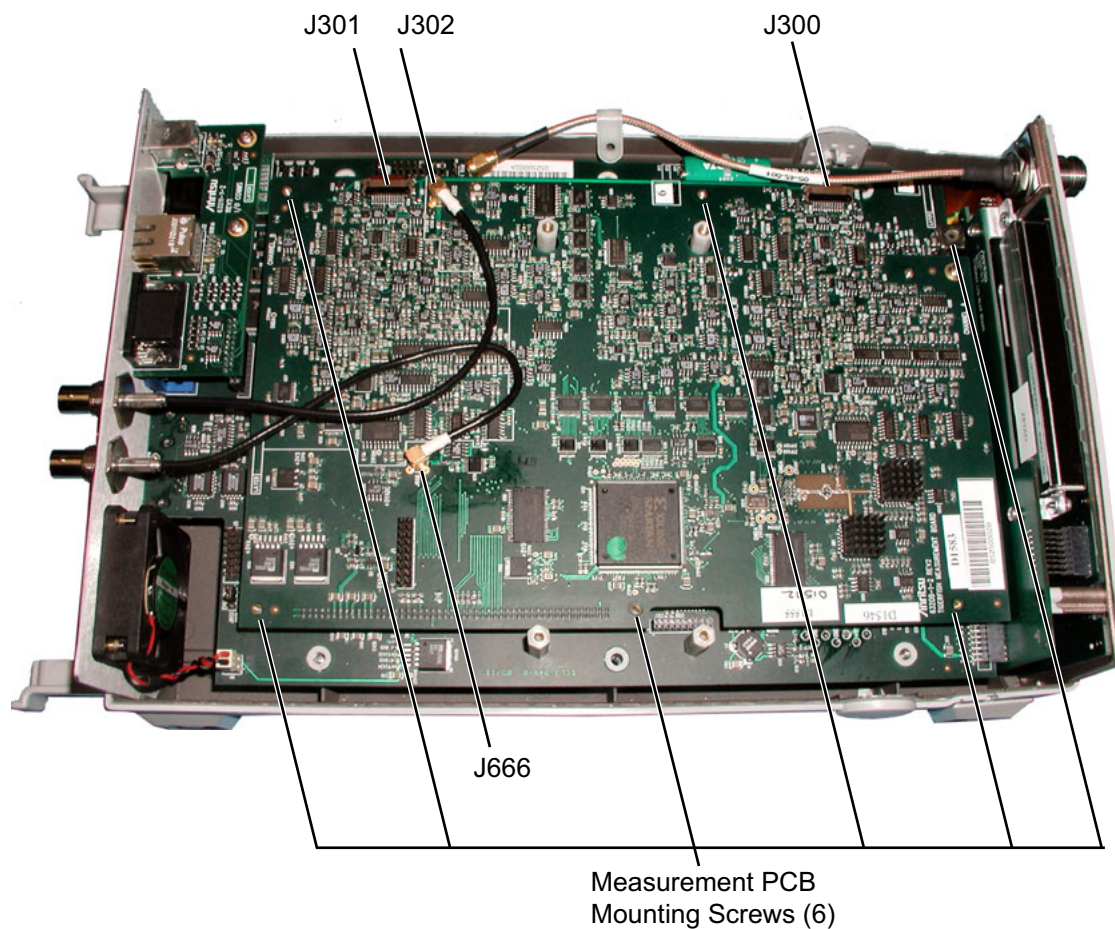

Figure 6-3. Measurement PCB Removal – ML248xB and ML249xA
1. Remove the six screws and washers that mount the measurement PCB to its support standoffs as shown in Figure 6-3.